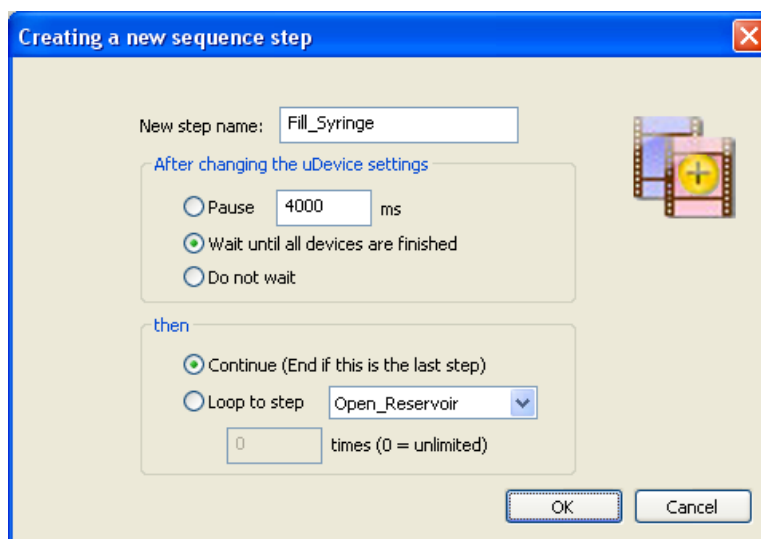

Figure 29. Step 1 Settings.
12. Choose **wait until all devices are finished** and **Continue** (*Figure 29*).